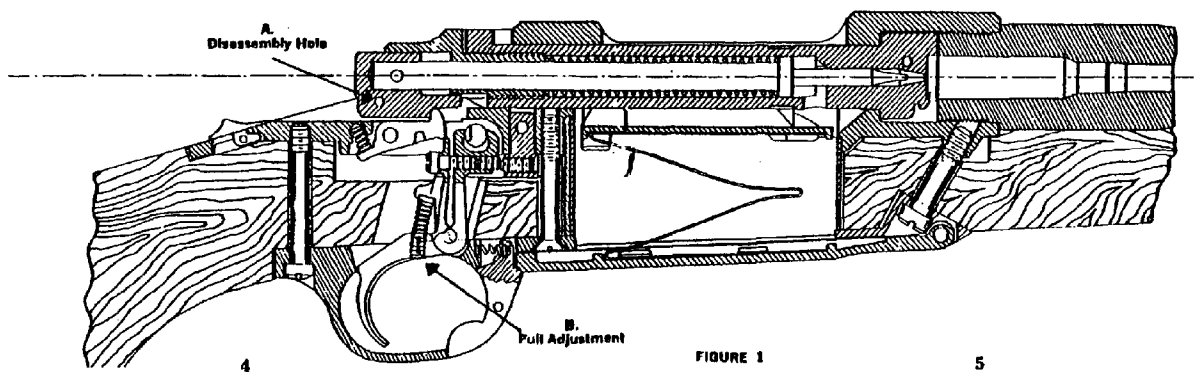

FIGURE 1
3. To remove firing pin assembly from bolt: With bolt closed in the receiver and firing pin cocked, insert a small pin (or suitable nail) into the hole (see Fig. 1-A) which is visible on the bottom of the cocking piece. Remove bolt from the action.